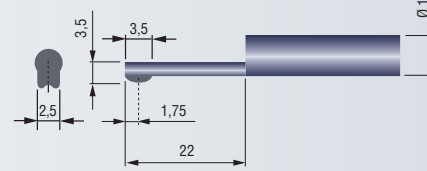

Fig. 1
**A** Undo both screws on the front face to remove the skid. Once done, use the probe very carefully for any further measurement (see Fig. 1).